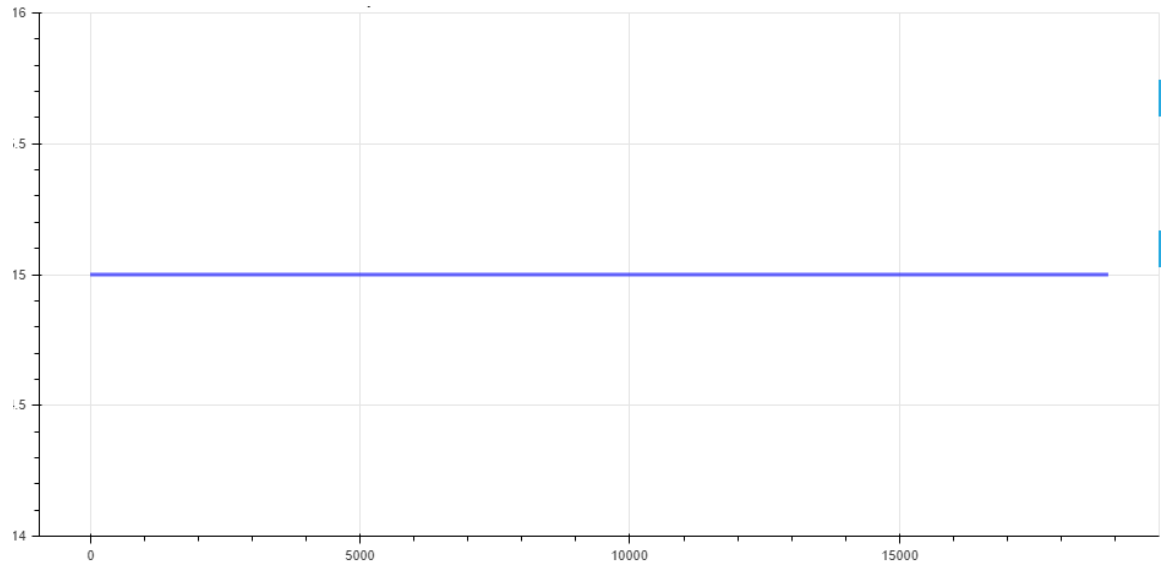

Figure 42 Out of Range
7.1.4. Figure 42 Out of Range represents a measurement without any data.